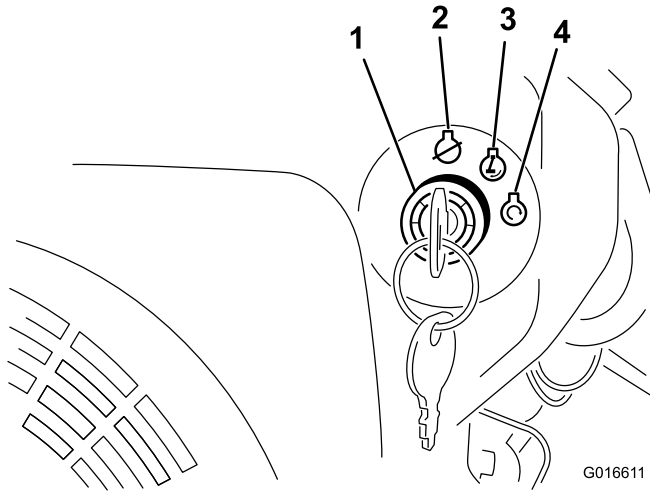

Figure 13
3. Turn the engine ignition switch to the Start position (Figure 13).
4. After the engine starts, release key to the Run position (Figure 13).
2. Turn the ignition switch to the Off position (Figure 13).